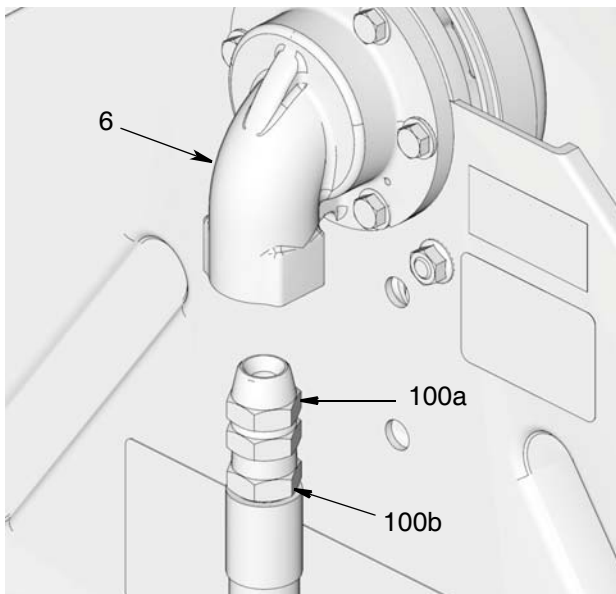

FIG. 4
2. Attach union adapter to inlet (6) (FIG. 4).
3. Apply pipe thread sealant or wrap PTFE tape around the threads (6) of inlet hose (100b) (if needed).
4. Attach union adapter (100a) to inlet hose (100b) (FIG. 4). Use a wrench to tighten the connection.